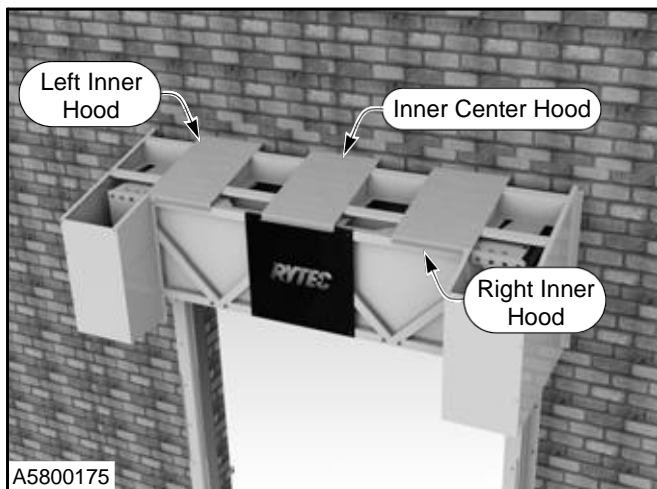

Figure 46
19. Lay left and right inner hoods on top of the center frame. (See Figure 46)